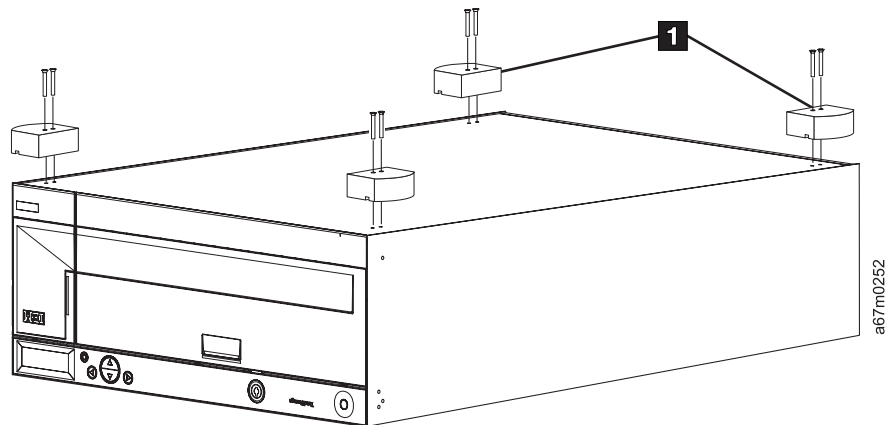

Figure 26. Attachment of Feet
- 8. Using a #1 Phillips screwdriver and two longer screws, attach each foot with two longer screws into the pair of round (see **1** in Figure 26), threaded holes located approximately 1 1/2 inches (30 mm) from each corner of the base unit. Be sure the edge of the base unit fits into the notches in the feet.